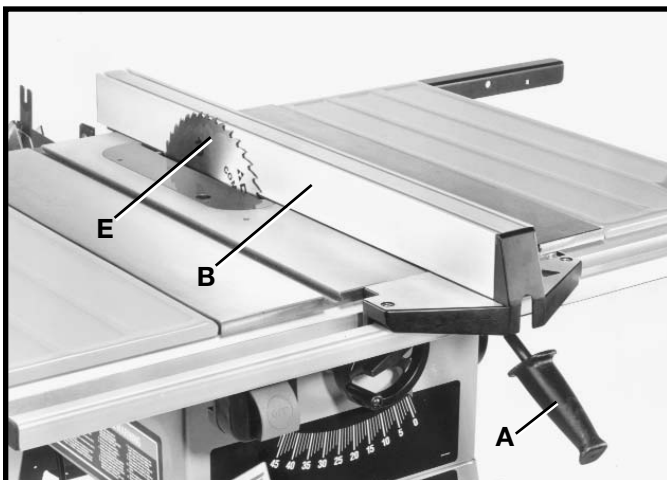

Fig. 15
2. Once the rip fence is aligned with the miter gage slot, raise the saw blade (E) to its highest position as shown in Fig. 15. Slide rip fence (B) against the saw blade (E) and lock the fence in that position by pushing down on handle (A).